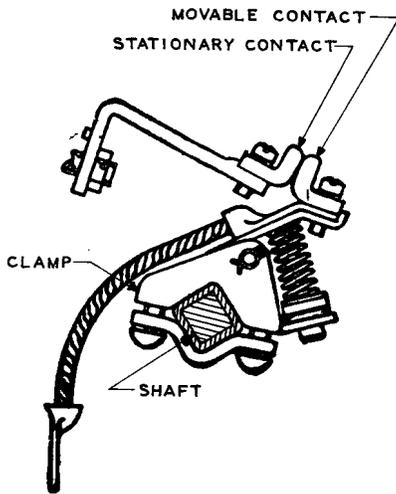
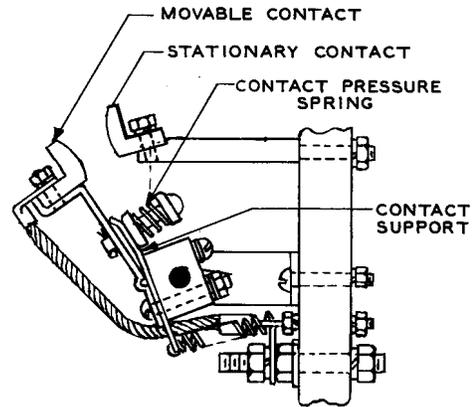

Fig. 2 - Cutler-Hammer
Fig. 3 - Ward Leonard
- (1) The main contacts of contactors can be adjusted to make contact simultaneously by one or the other of the following procedures. Where the contact arm is attached to the shaft by means of a clamp, see Fig. 2, slightly loosen one of the two clamping screws and tighten the other by a similar amount, repeating as required. The selection of which screw to loosen depends upon the direction in which it is desired to move the contact. Where attachment is made by means other than clamping, as in the Ward Leonard contactors, see Fig. 3, adjust the associated contact support with the pliers as required.
- (2) Adjust auxiliary contacts with the pliers. On Cutler-Hammer contactors, the adjustment is made on the